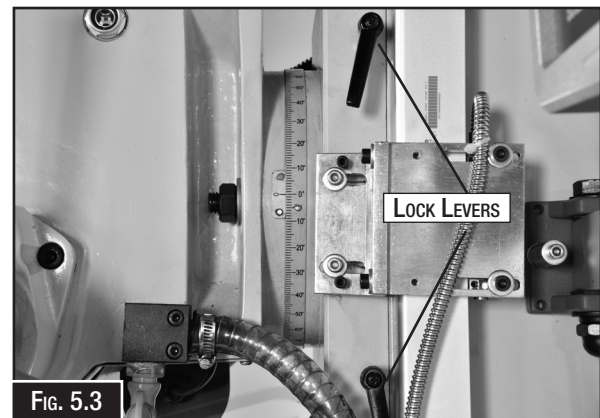

FIG. 5.3
1. Loosen both Z-axis lock levers shown in Fig.5.3 and remove the crank handle.